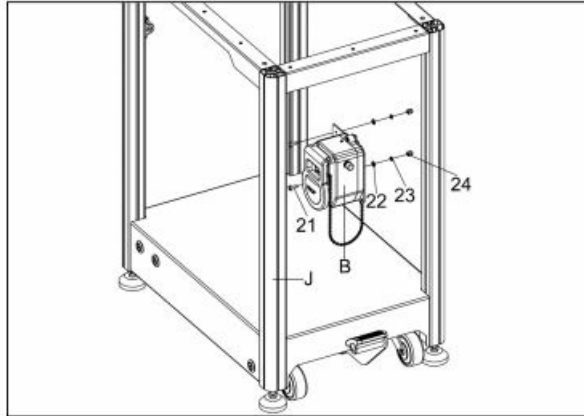

Fig.10
- **g.** To mount the power switch (B), install the switch at the appropriate position of the leg (J). The switch should be mounted near the foot pedal side with the provided fasteners (#21, #22, #23, and #24) as shown in Fig.10.